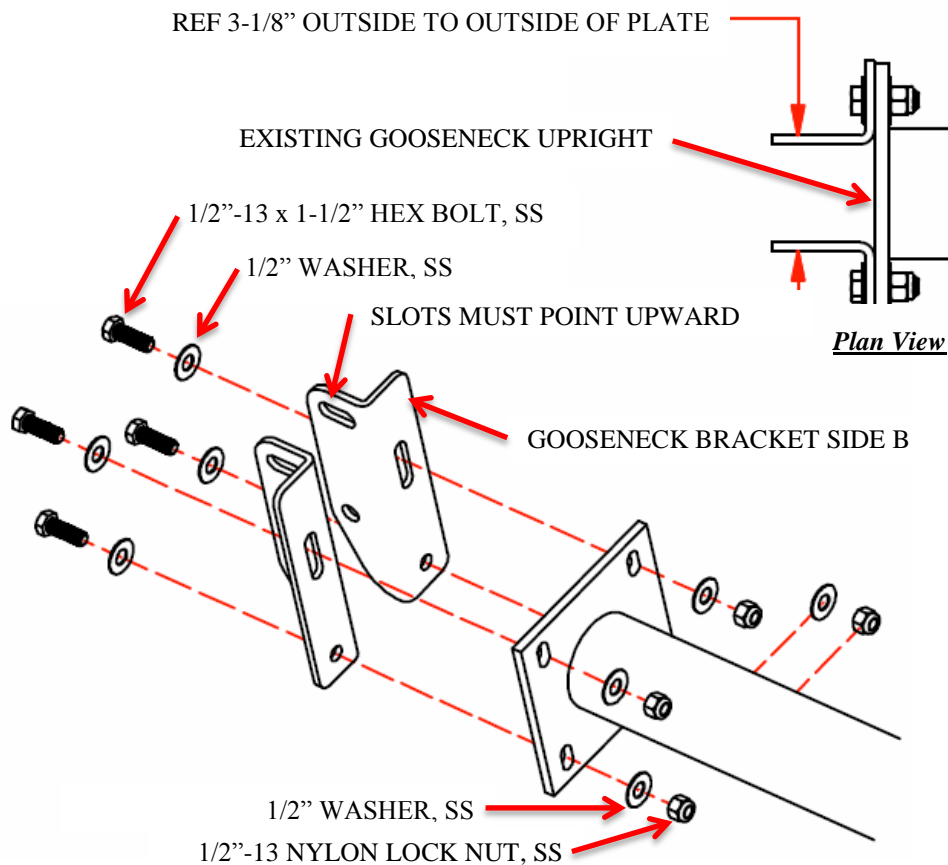

Figure 1
3. Attach the H-Frame gooseneck bracket together as shown *(figure 1)*.